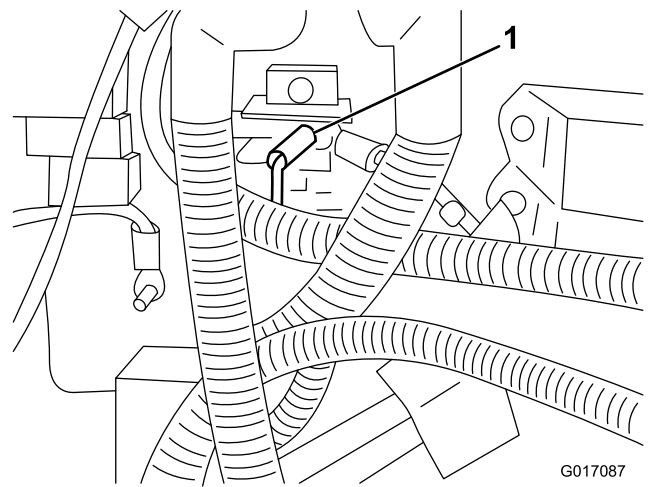

Figure 4
10. Connect the black wire with a ring terminal to the ground terminal block (Figure 4).